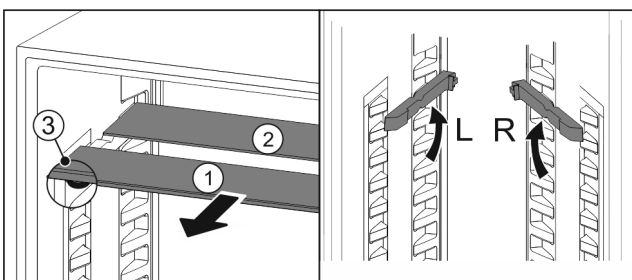

Fig. 92
- ▶ Pull the glass panels out Fig. 92 (1) from the front, one at a time.
- ▶ The glass panel Fig. 92 (1) and trim strip are at the front.
- ▶ The stops Fig. 92 (3) point down.